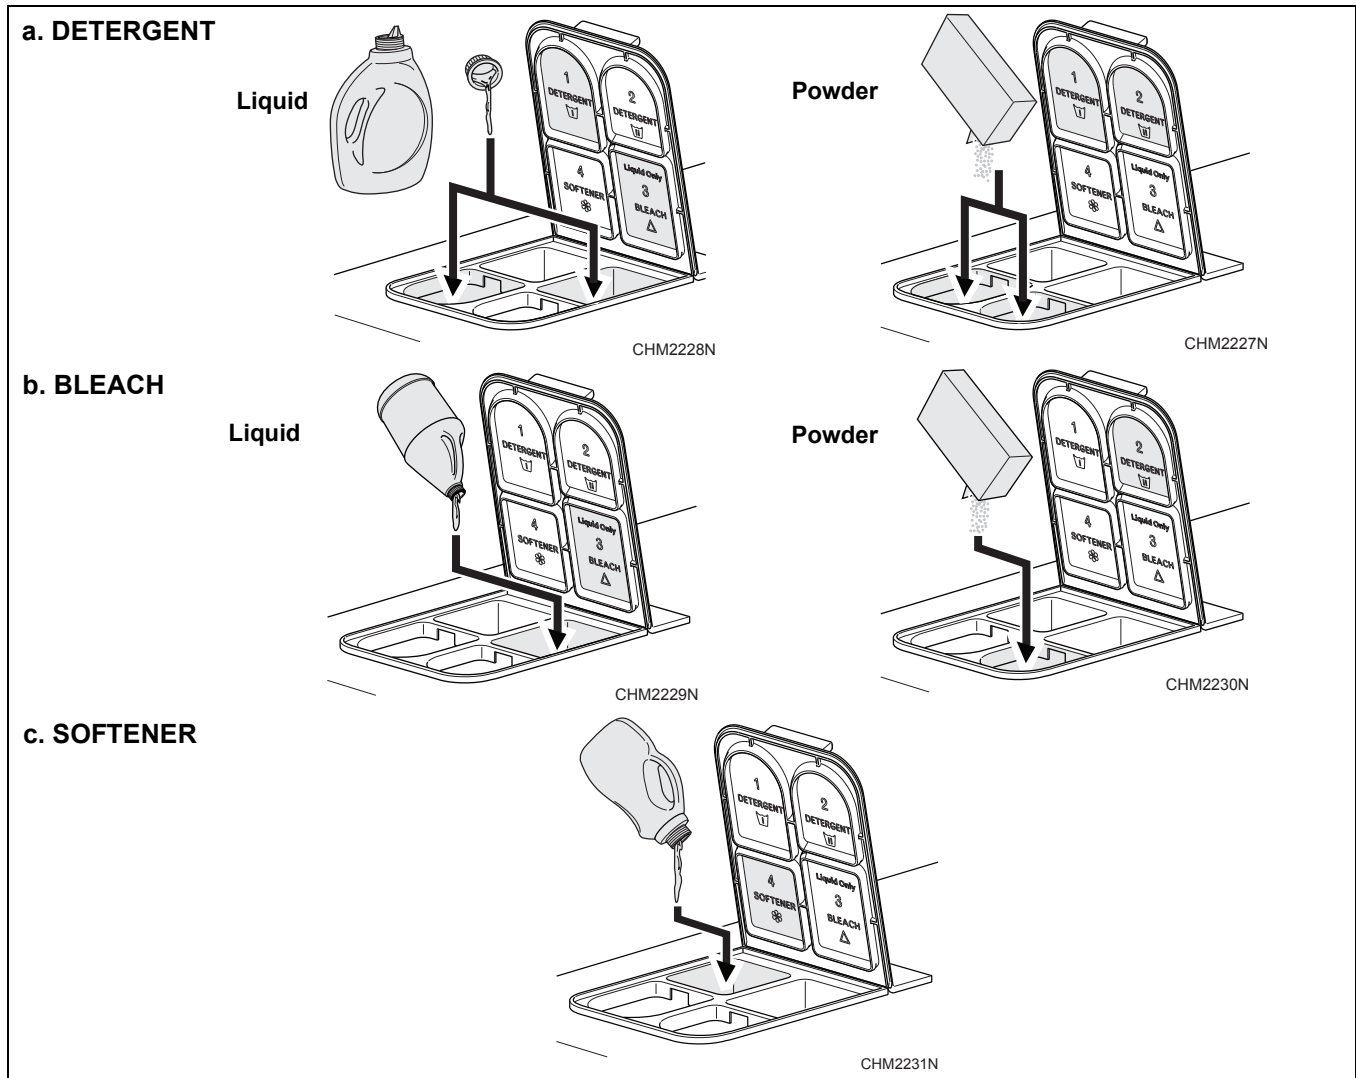

Figure 6
7. Add liquid and/or powder supplies to supply dispenser. Refer to *Figure 6*.